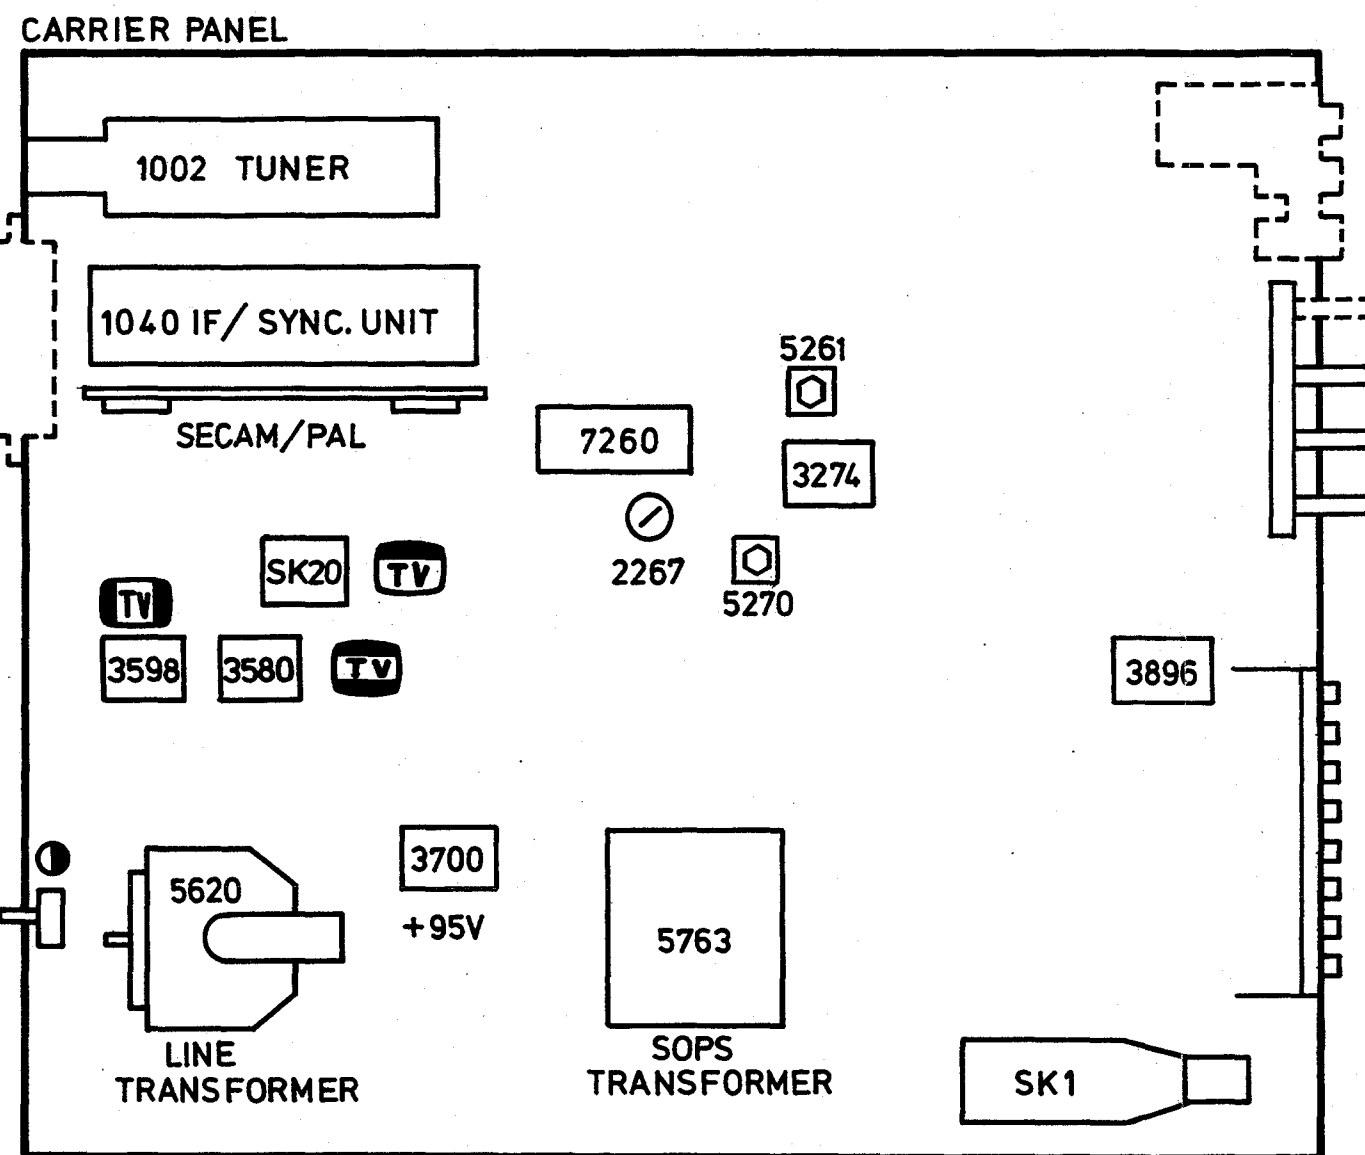

Fig. 4
A. ADJUSTMENTS TO THE MAIN PANEL (Fig. 4)